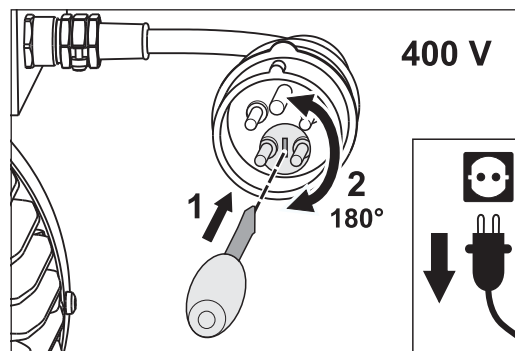

Fig. 29 Change the rotation direction of the motor by turning the phase changing switch 180°.
- Put a screwdriver in the slit of the phase changing switch in the plug of the motor cable (fig. 29, 1).
- To unlock the phase changing switch press the screwdriver in the slit and at the same time turn the screwdriver 180° (fig. 29, 2).
- To unlock the phase changing switch turn the screwdriver 180° against a small resistance (fig. 29, 2).